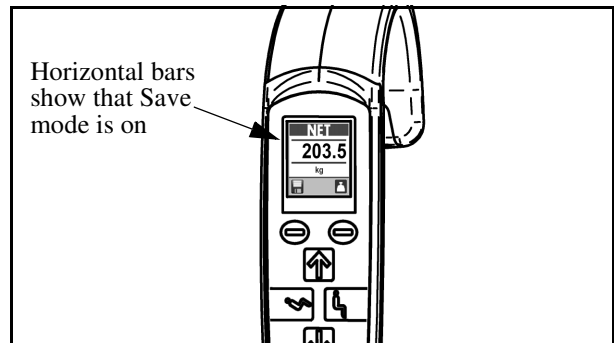

Fig. 61
5. Press the save button if the net weight needs to be kept in memory. Horizontal bars will appear above and below the digits on the screen to show that the save function is activated. “Save” will stay active until the save button is pressed again (see Fig. 61).